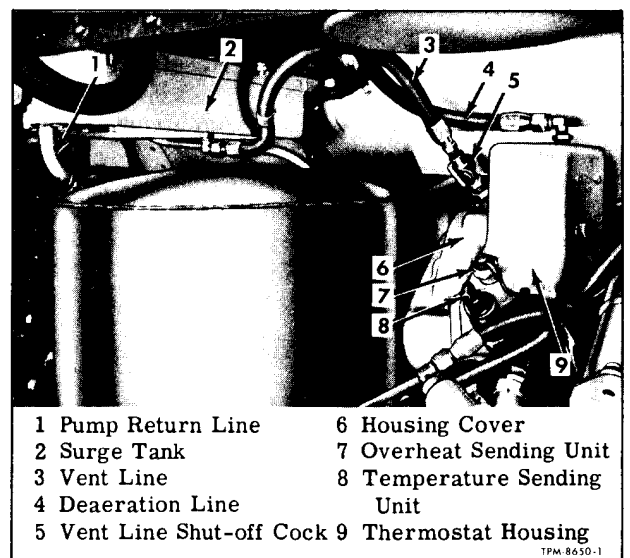

Figure 2—Surge Tank, Thermostat Housing, and Lines
2. Open shut-off cock in vent line at top of thermostat housing at front of engine (fig. 2).
7. After all lines have been bled, close vent line shut-off cock at fitting in top of thermostat housing (fig. 2).
Engine thermostats are located in outlet housing at front of engine (fig. 2).